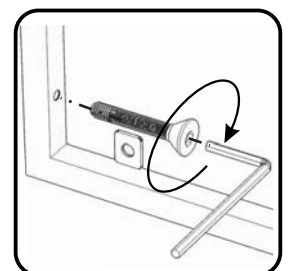

Figure 2
Attach Frames (A), (B) and (C) to Side Panel (D) with Tapered Bolts (long), tightening bolts only halfway. (See Figure 2)